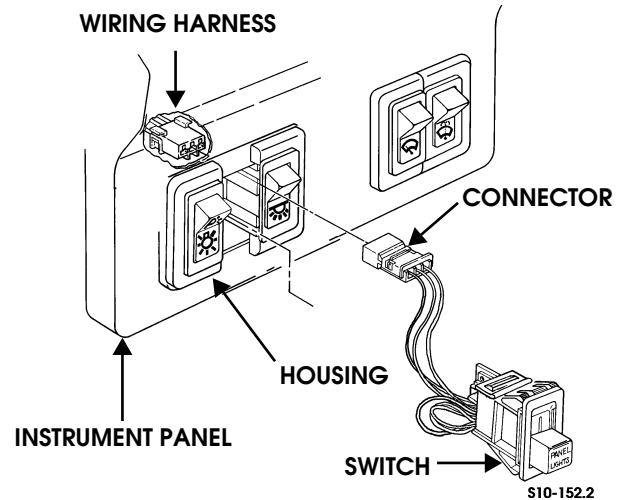

Figure 10-20: Instrument Panel Dimmer Control Switch Replacement
3. Unplug connector from wiring harness (Figure 10-20).
2. Install switch in switch housing (Figure 10-20).